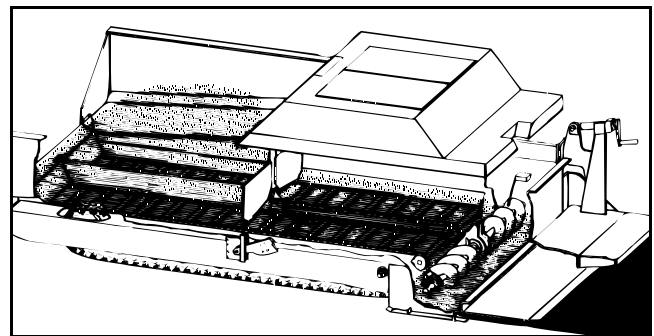

Figure 4 - 25 Shaded areas to be sprayed down daily
- 3) Start cleaning at the truck hook/push rollers and work your way to the rear of the machine cleaning the hopper wings, slat conveyors, hopper gates, augers, screed bottom, end gates, strike-offs, etc. (Figure 4 - 25)